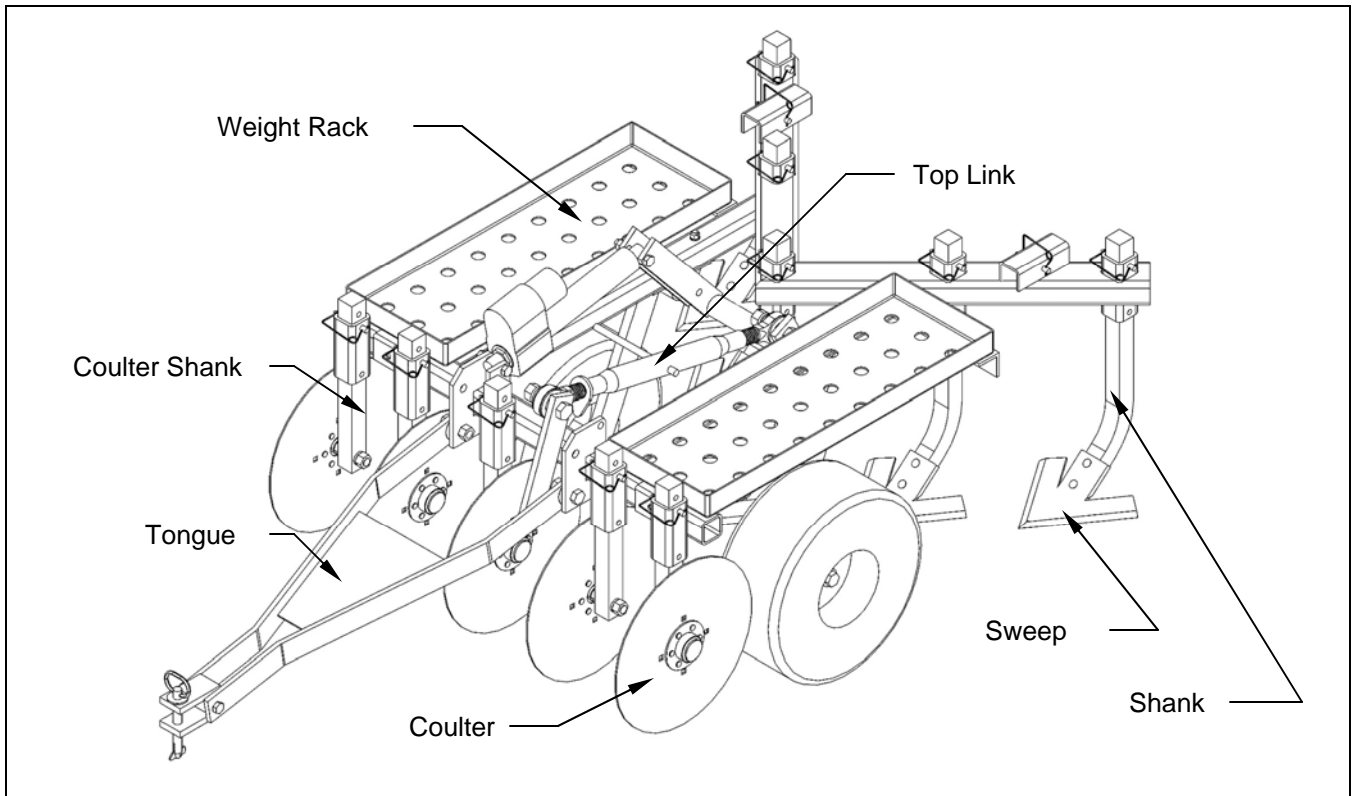

Figure 1. – Tillage Tool Parts
1. The crated tillage tool should have arrived in a vertical position. Lay the crate down with the tires positioned towards the ground. Remove the crate and position the tillage tool on it's side. Remove the center coultter assembly by removing the wire lock pin. At this time the tongue can be rotated in a counter-clockwise direction towards the front of the tillage tool assembly. Reinstall the center coultter assembly and fasten securely with the wire lock pin that was previously removed. **(See Figure 1.)**